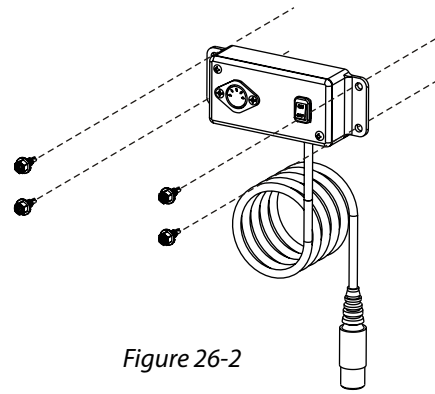

Figure 26-2
**7. If customer prefers,** fasten enclosure to chosen location using self-drilling screws provided. *[Figure 26-2]* Do NOT over-torque these screws.